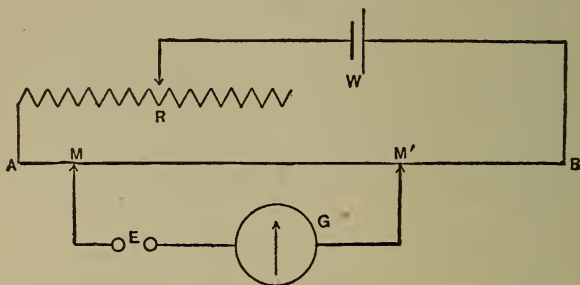

Fig. 157. Principle of the Potentiometer.
*Principle of the Potentiometer.*—In Figure 157  $W$  is a battery giving a constant current,  $R$  is an adjustable resistance,  $AB$  is a resistance divided into 150,000 parts, and by movable contacts  $M M'$  different lengths of it may be thrown into parallel with the circuit containing the